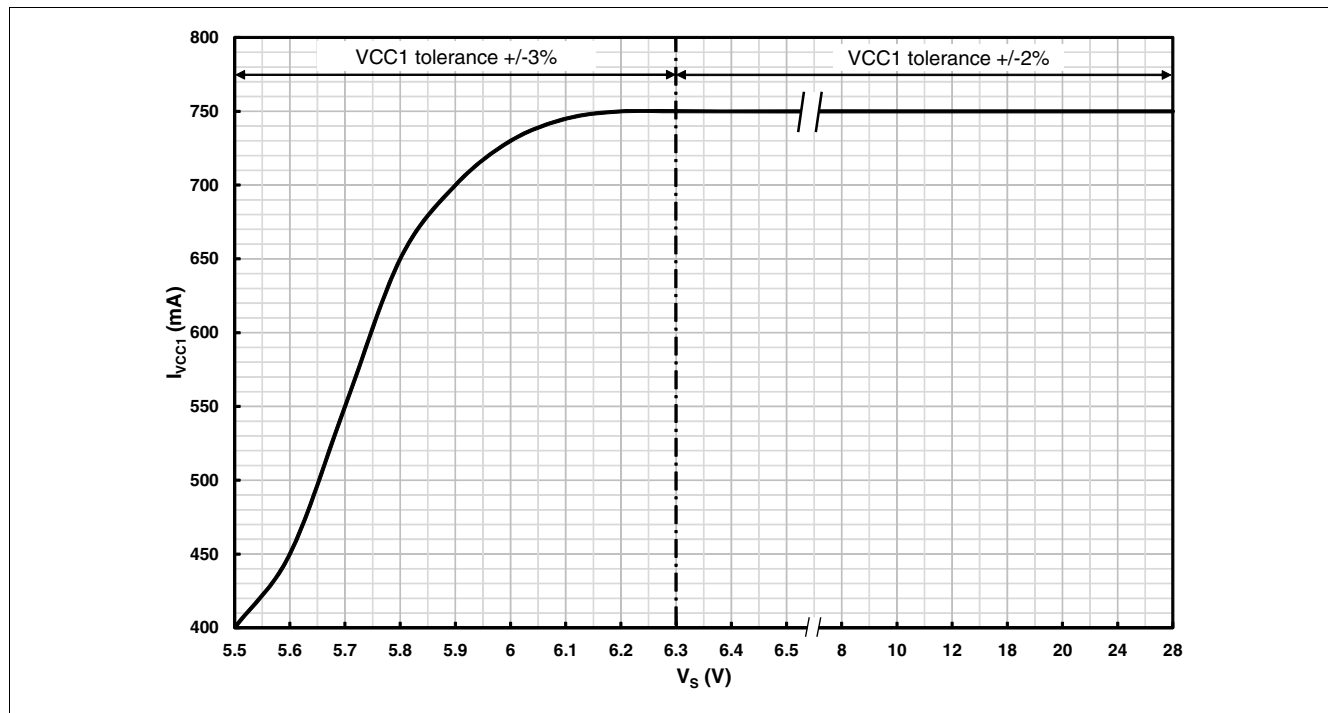

Figure 13 Maximum DCDC buck current capability versus VS.
- 1) Typical maximum current capability is given in Figure 13. The external components are in accordance with the application information (refer to Chapter 15).
Note: The Figure 13 is based on characterization results over temperature with external components specified in Chapter 15.1.